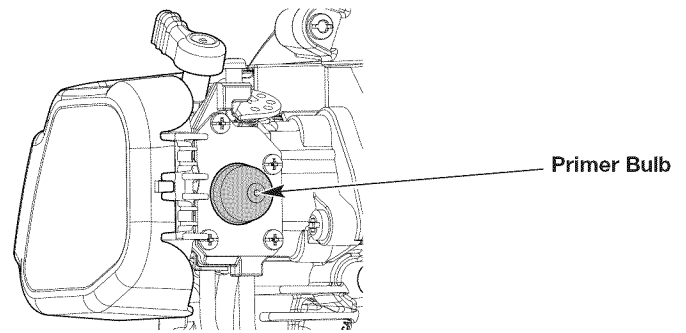

Fig. 8
3. Slowly press and release the primer bulb **10 times** (Fig. 8). If fuel cannot be seen in the primer bulb, press and release the primer bulb until fuel is visible.